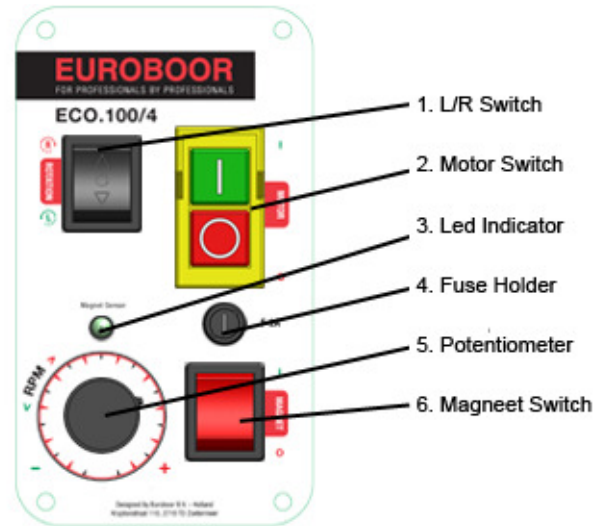

Fig. 2
Connect the machine to the mains/work piece. To activate the magnet, press the red button (Fig. 2 – 6). The switch will be lit (red). The LED indicator (Fig. 2 - 3) will be lit GREEN if generated magnetic force is sufficient. When LED indicator turns RED there is not enough magnetic force and it is not safe to work. To deactivate the magnet, press the same button (Fig. 2 - 6) again.
The motor unit can only be switched ON when the magnet is activated. To turn the motor ON, by pressing the green button with marking “I”(Fig. 2 - 2). To switch the motor OFF, press the red button with marking “O”(Fig. 2 - 2).
- Switch off the machine (Fig. 2 - 2) and change the cutter for the tap collet and the machine tap;
- Select the lowest gear (Fig. 4) and speed (Fig. 2 - 5) and set the direction of rotation to clockwise (right = R) at switch (Fig. 2 - 1);
- Switch on (Fig. 2 - 2) the machine and set the machine tap onto the drilled hole;
- Switch off (Fig. 2 - 2) the machine and set the direction of rotation to anti-clockwise (left = L) at switch (Fig. 2 - 1).
- Switch on the machine (Fig. 2 - 2) again and allow the machine tap to come completely out of the work piece. Then guide the machine slide upwards at handle to avoid damaging the start of the thread.